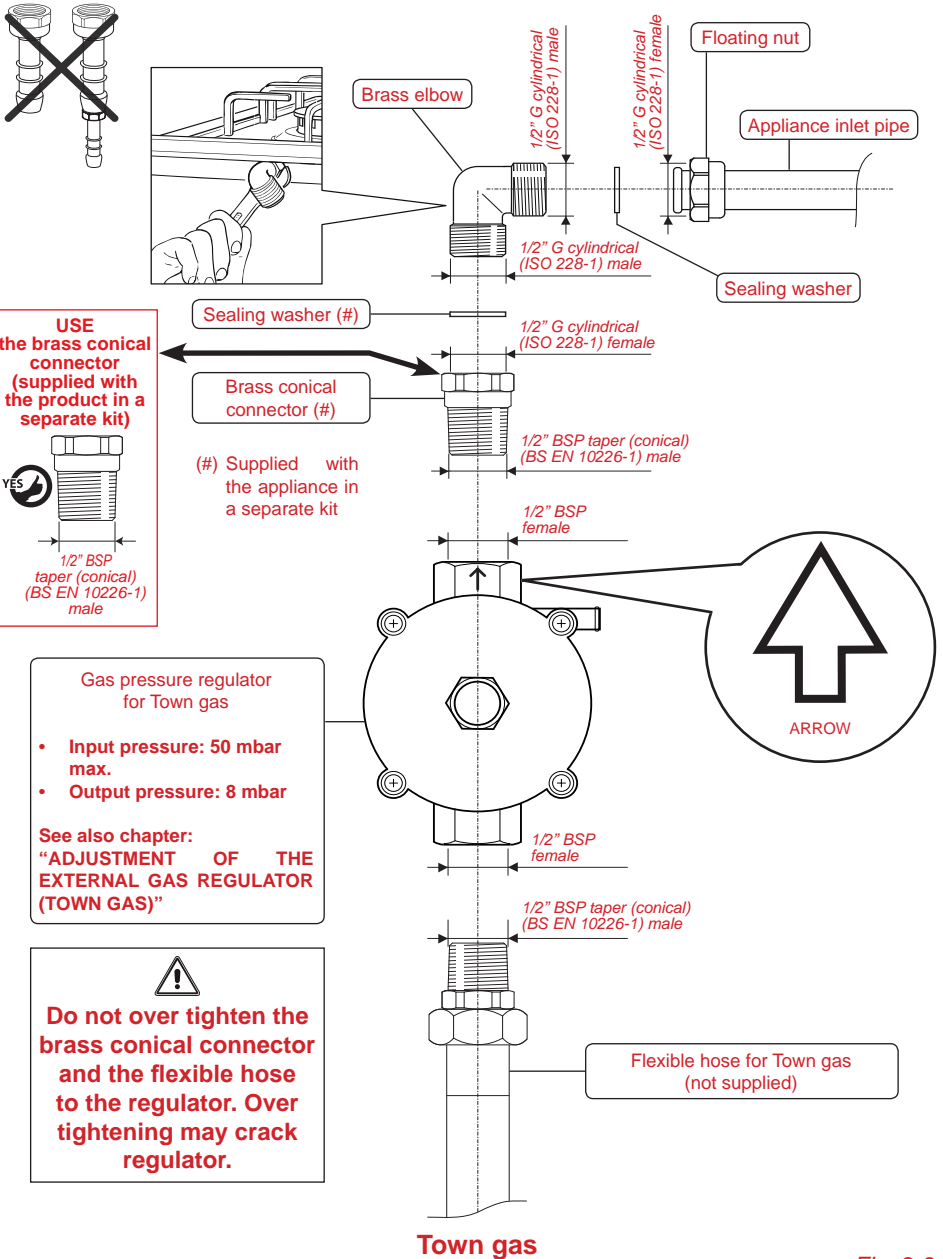

Fig. 2.3
The gas connection is made up of (Fig. 2.3):
- The brass conical connector is not already fitted on the appliance (it is supplied in a separate kit); screw that connector to the brass elbow, interposing the sealing washer provided, before starting the connection to the gas supply. Be sure to fit the conical connector as indicated in figure 2.3. Pay special attention to not loosen the elbow and floating nut connection when fitting the brass connector.